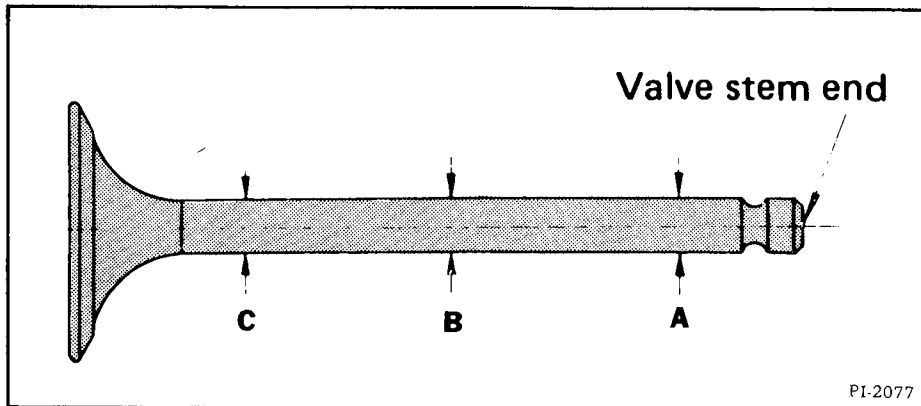

Fig. 8-20 Measure Outside Diameter of Valve Stems
- (2) Use a micrometer to measure the outside diameter of the valve stems at locations A, B and C (Fig. 8-20).